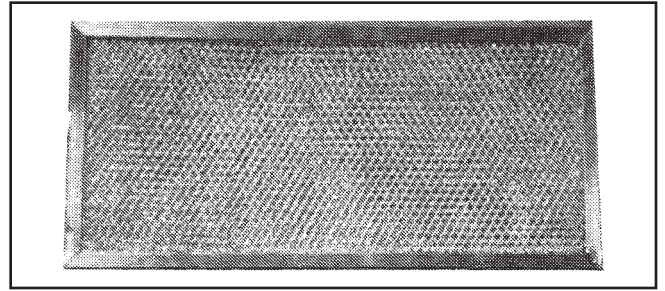

FIGURE 4
2. PREFILTER – Pt. No. 33-0110 (see Figure 4)